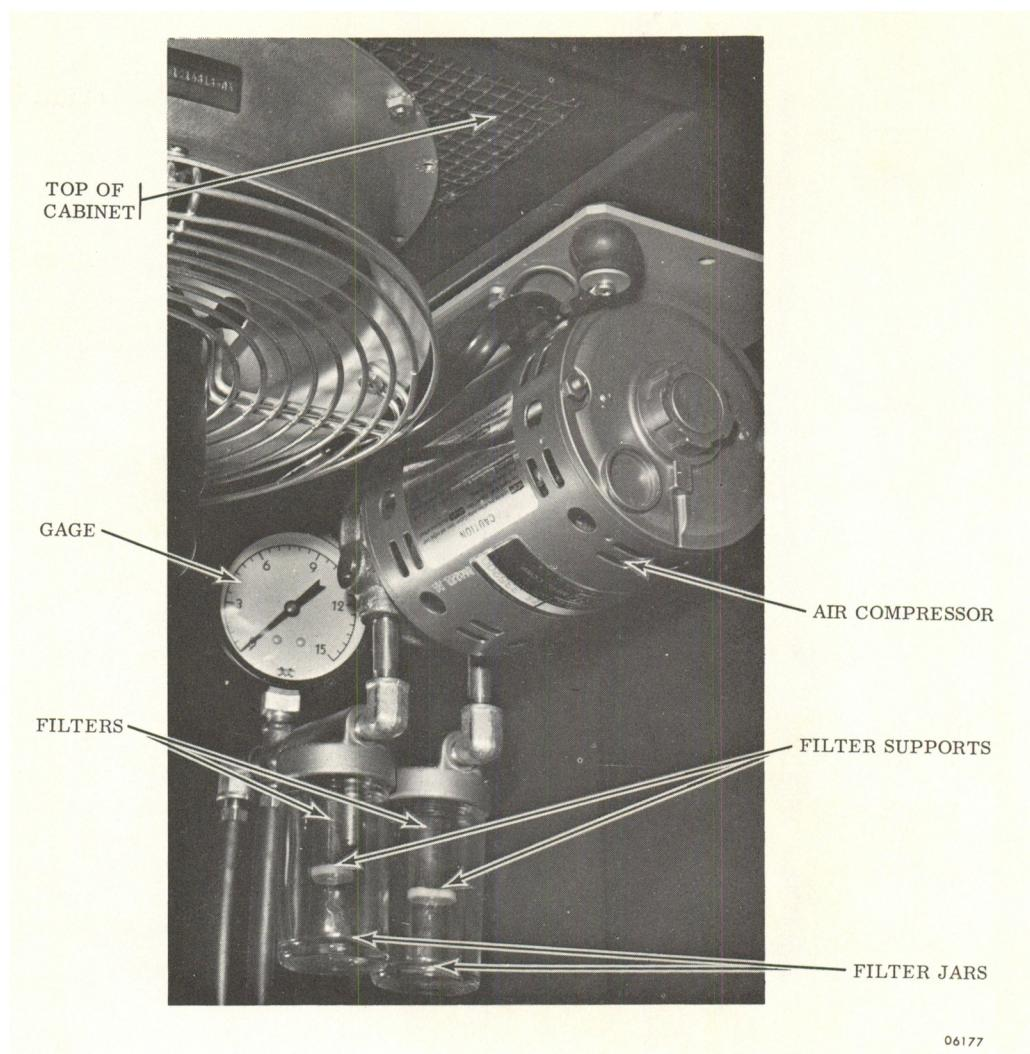

Figure 5.1-2. Air Compressor
- a. Remove the filter jars (see Figure 5.1-2).